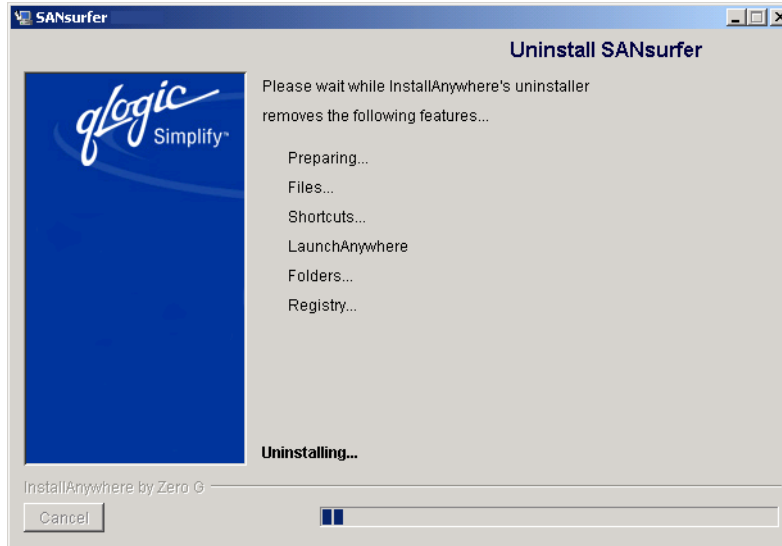

Figure 5-14. Uninstall SANsurfer—Component List Dialog Box
3. The **Uninstall SANsurfer—Component List** dialog box lists the components to be uninstalled (see figure 5-14).